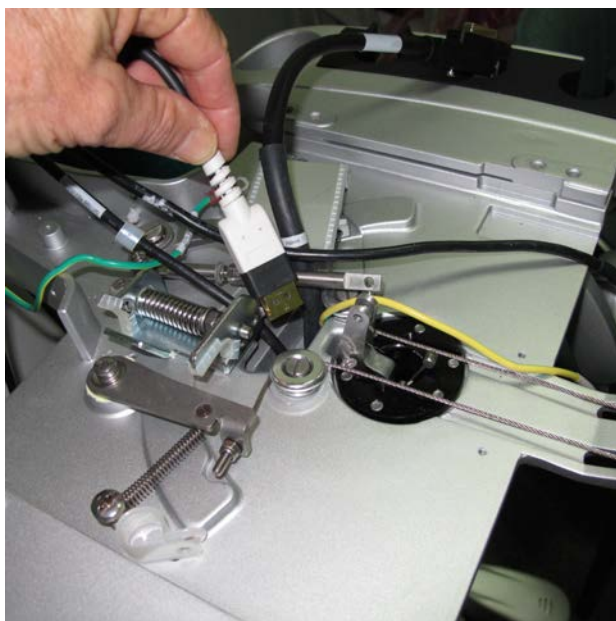

Figure 8-97 White OPIO to BIF Cable
- 5.) Thread the white OPIO to BIF cable through the OPIO platform aperture a in Figure 8-97 below.